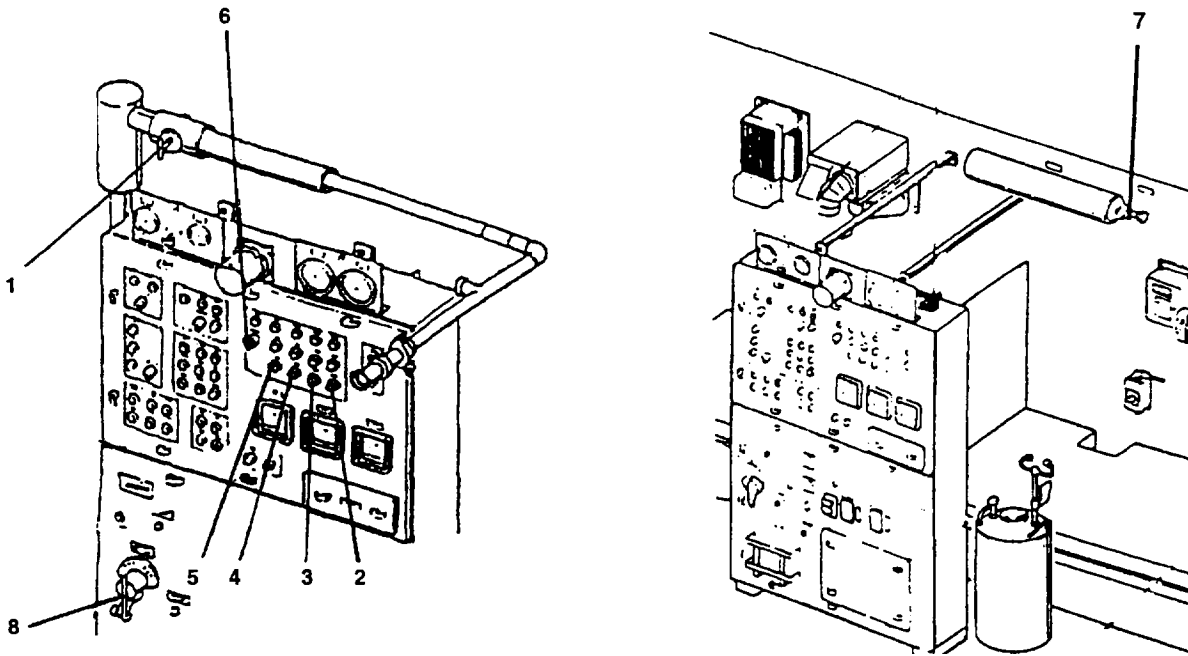

Figure 2-48. Routine Shutdown to Stand-By
- (2) Slowly close the system pressure control valve while watching the Reverse Osmosis pressure gage. The ROWPU should shutdown at 930-960 psig.
- (3) Slowly close the cartridge filter block valve while watching the cartridge filter differential pressure gage. The cartridge filter plugged light and alarm should come on when the difference between the two needles is 13-18 psig.
- (4) Slowly close the feed control valve while watching the media filter differential gage. The media filter plugged light and alarm should come on when the difference between the two needles is 22-28 psig.
- (5) Slowly close the cartridge filter block valve while watching the red needle on the cartridge filter inlet/outlet pressure gage. The booster pump and high pressure pump should shutdown at 4-8 psig.
**2-18. ROUTINE SHUTDOWN TO STAND-BY.** Use this procedure when the ROWPU is to be shut down for 3 hours or less (Figure 2-48).